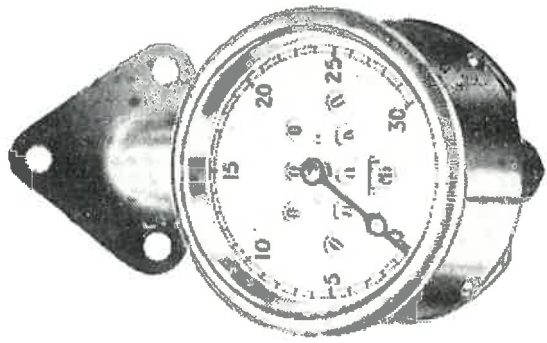

Figure 4.— Type No. AA166,
- Type AA166. Commercial Speedometers and Mileage Recorder (Fig. 4)